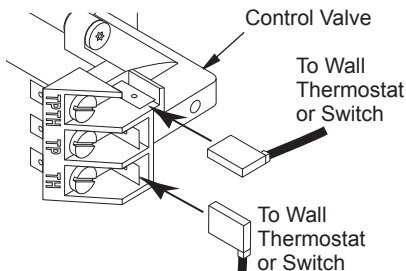

Figure 31 - Connecting Wire Terminals
2. Connect one terminal of 25 ft. wire to the "TH" terminal on the control valve. Connect the other terminal to the "THTP" terminal on the control valve. See Figure 31.